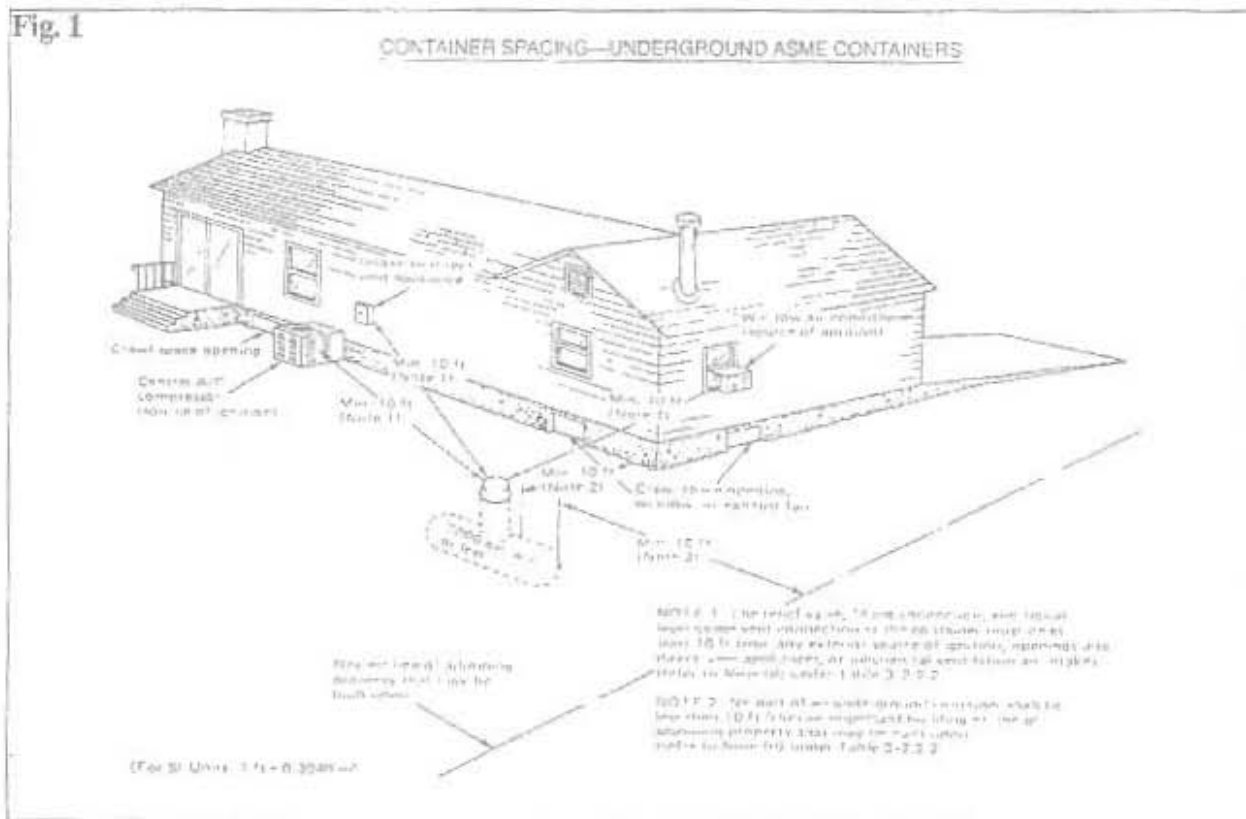

Fig. 2
If surface drainage and water table level are disregarded at the time of installation, the housing dome may be flooded. This may cause corrosion and/or malfunction of the fittings, valves, pressure relief valves, gauging devices and regulators as well as corrosion of the container itself. Water in the dome might freeze in the winter months in some parts of the country. Therefore, proper drainage must be provided for the housing dome to eliminate accumulation of water. See Figure 2.
3. The bottom of the excavation must be level and free of rock. If rocks are present, a 6-inch bed of sand should be used. For completely buried tanks, the excavation must be dug to a proper depth to provide for the housing dome to extend far enough above ground level to prevent entrance of surface water (1 to 3 inches is common practice), allowing for grading away from the dome. See item 7. If conditions require it, suitable precautionary measures such as shoring should be taken to prevent cave-ins during excavation.
7. In high ground water level areas, provisions shall be made to adequately secure the container to the ground, or to a concrete slab, to prevent flotation. Remember that a properly filled container can float because the density of LP-Gas is about half that of water. Local soil conditions may require other provisions to allow proper drainage from within housing dome. See Figures 2 & 3.
10. Grade ground down and away from the housing dome to provide surface water drainage away from dome. See Figure 2.
5. Install regulators so the vent openings are vertically down and above the highest possible water level. If a vent line is used, it should extend upward to the top of the dome and then be turned down not more than 1-1/2 inches below the inside of the housing dome cover. Bug screens must be installed in the regulator vent or on the end of the vent line. See Figure 2.
4. If there is any indication that water has been too high in the dome housing, the container should be banked with earth to direct drainage away to a lower point to prevent recurrence. As an alternate, install a drain pipe from the bottom of the dome housing to a lower point (level) away from the container. See Figure 2. If water cannot be drained, it may be necessary to raise the tank and regrade to correct the problem.